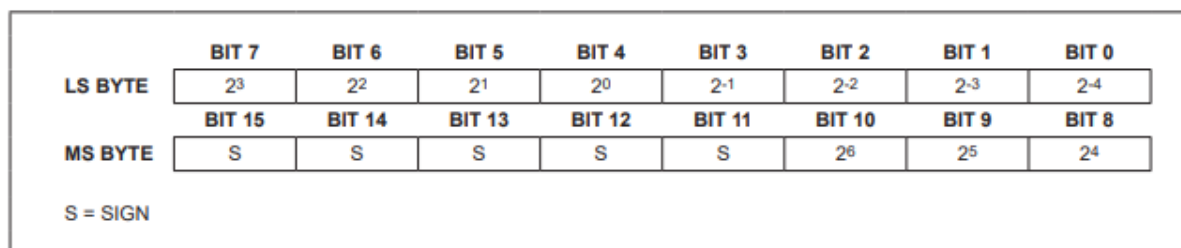

Figure 4. Temperature Register Format
The DS18B20 output temperature data is calibrated in degrees Celsius; for Fahrenheit applications, a lookup table or conversion routine must be used. The temperature data is stored as a 16-bit sign-extended two's complement number in the temperature register (see Figure 4). The sign bits (S) indicate if the temperature is positive or negative: for positive numbers S = 0 and for negative numbers S = 1. If the DS18B20 is configured for 12-bit resolution, all bits in the temperature register will contain valid data. For 11-bit resolution, bit 0 is undefined. For 10-bit resolution, bits 1 and 0 are undefined, and for 9-bit resolution bits 2, 1, and 0 are undefined. Table 1 gives examples of digital output data and the corresponding temperature reading for 12-bit resolution conversions.